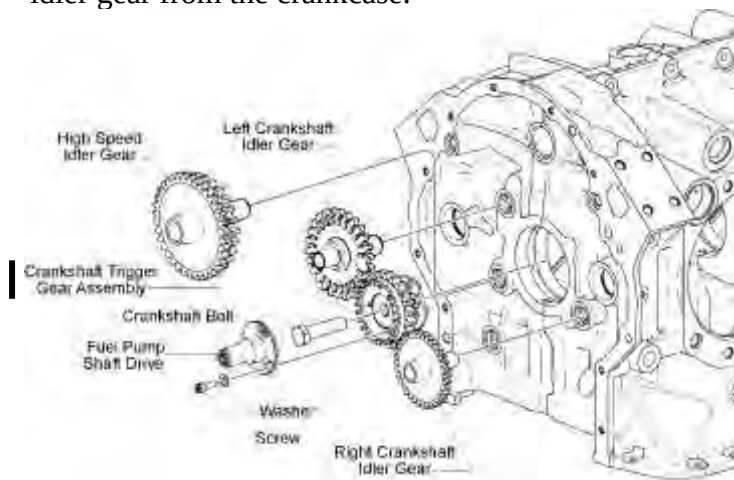

Figure 2
- B. Remove the high-speed idler gear (Figure 2) from the crankcase.
NOTICE: Any time the crankshaft gear bolt (Figure 2) is removed from the crankshaft trigger gear assembly, the bolt is to be discarded and replaced with a new bolt for the applicable crankshaft trigger gear assembly. The discarded bolt is not to be re-installed on any engine.